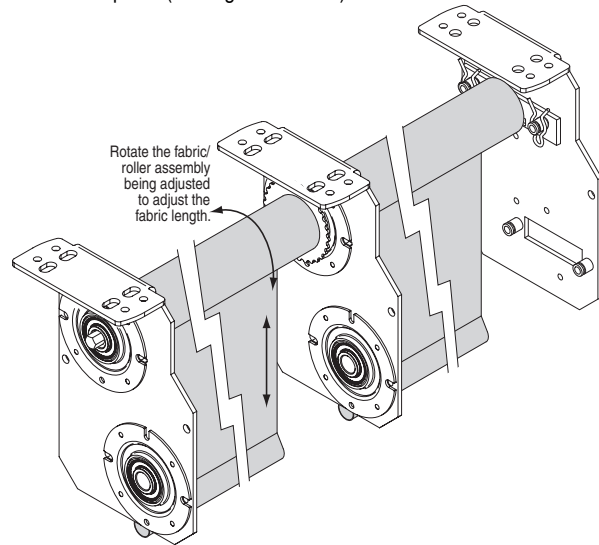

Figure 16
- ③ Rotate the fabric/roller assembly being adjusted in either direction to raise or lower the fabric panel (see Figs. 16 and 18).